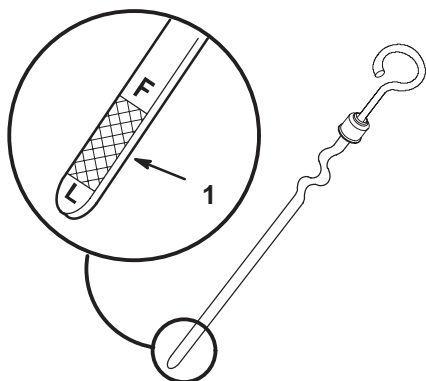

Figure 6
4. Pull out the oil dipstick and wipe the metal end clean (Fig. 6).
6. Pull the dipstick out and look at the metal end (Fig. 6). If the oil level is low (near the L mark), add oil; refer to Engine Oil, page 21.